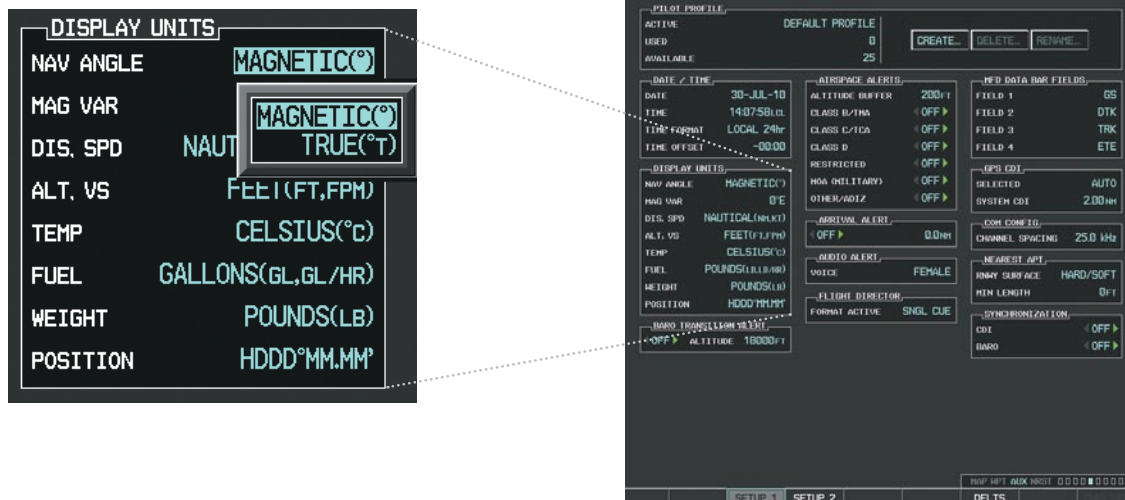

Figure 2-22 System Setup Page, Navigation Angle Settings
- 5) Turn the large **FMS** Knob to highlight 'Nav Angle' in the 'Display Units' box (Figure 2-22).